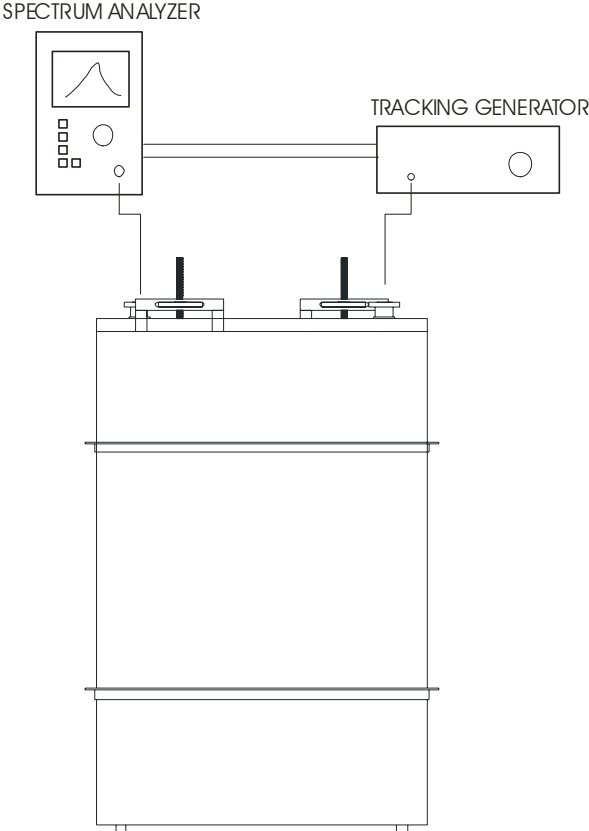

Fig. 1
- 1) To use a tracking generator and an spectrum analyser and to effect all the necessary regulations to get the least insertion loss in the frequency of use. (Fig. 1)